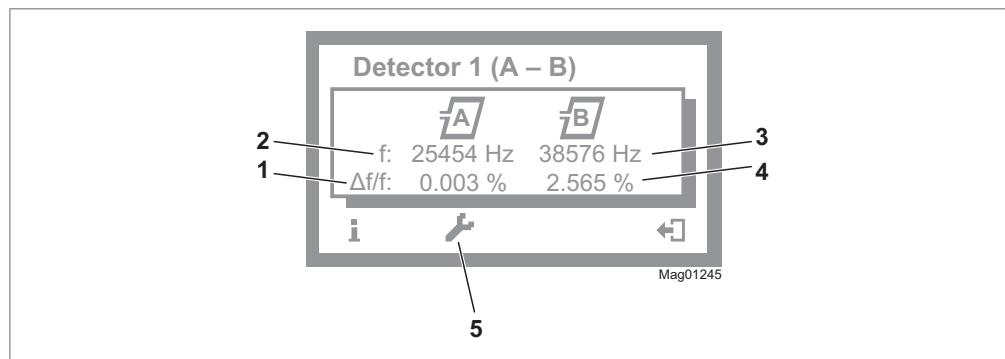

Fig. 28: View "Detector 1 (A-B)" (example)
1. Press the left button «» repeatedly, until the menu "Detector 1 (A-B)" is displayed. ↗ Page 53, Fig. 28.